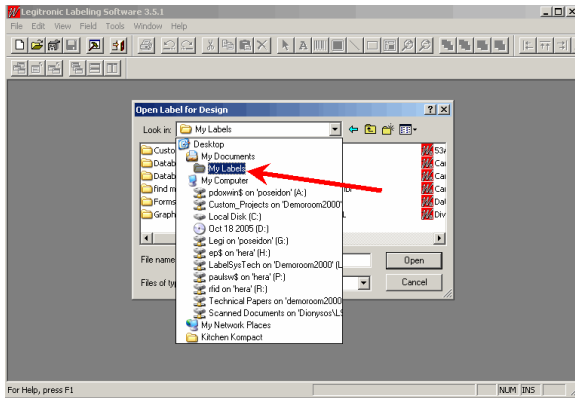

Figure 49a
59. Browse to and highlight the label you want to import and click Open. (Figure 49a, b)